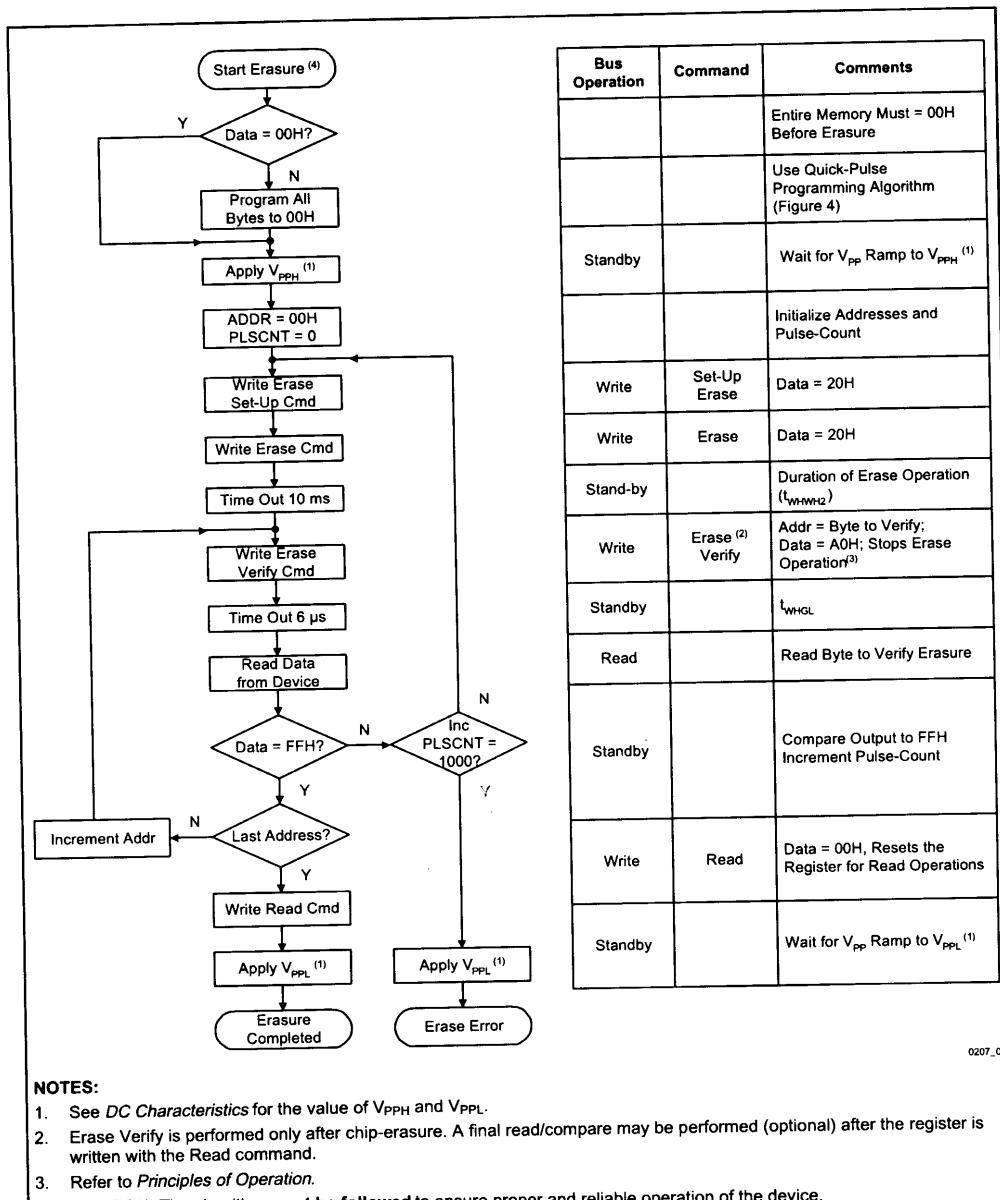

Figure 5. 28F010/28F020 Quick-Erase Algorithm
5. Figure 5 illustrates the 28F010/28F020 Quick-Erase Algorithm flowchart.
In the case where the data read is not FFH, another erase operation is performed. (Refer Section 2.2.2.3, *Set-Up Erase/Erase Commands*.) Verification then resumes from the address of the last-verified byte. Once all bytes in the array have been verified, the erase step is complete. The device can be programmed. At this point, the verify operation is terminated by writing a valid command (e.g., Program Set-Up) to the command register. Figure 5, the *28F010/28F020 Quick-Erase Algorithm* flowchart, illustrates how commands and bus operations are combined to perform electrical erasure of the 28F010 and 28F020. Refer to *AC Characteristics—Write/Erase/Program Only Operations* and waveforms for specific timing parameters.
The 5 Volt Bulk Erase applies an internally-generated margin voltage to the byte. A microprocessor read cycle outputs the data. A successful comparison between the programmed byte and true data means that the byte is successfully programmed. Programming then proceeds to the next desired byte location. Figure 5, the *28F010/28F020 Quick-Pulse Programming Algorithm* flowchart, illustrates how commands are combined with bus operations to perform byte programming. Refer to *AC Characteristics—Write/Erase/Program Only Operations* and waveforms for specific timing parameters.
Erase execution then continues with an initial erase operation. Erase verification (data = FFH) begins at address 0000H and continues through the array to the last address, or until data other than FFH is encountered. With each erase operation, an increasing number of bytes verify to the erased state. Erase efficiency may be improved by storing the address of the last byte verified in a register. Following the next erase operation, verification starts at that stored address location. Erasure typically occurs in one second. Figure 5 illustrates the *28F010/28F020 Quick-Erase Algorithm* flowchart.